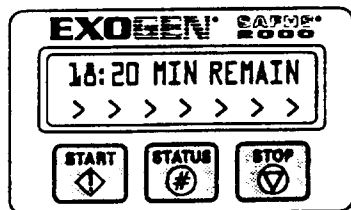

Fig. F.7
- g. Press the "Start (◊)" button again within this 5 seconds to start the 20-minute treatment period. The display indicates the remaining time of the 20-minute treatment period (Fig. F.7). The green light on the back of the THM will light indicating that the THM is emitting ultrasound. The device will shut off and the display will be blank if the "Start (◊)" button is not pressed within this 5 seconds and steps F.1.a through F.1.e must be repeated.
Note: Each time the device is turned on (Fig. F.7) by pressing the "Start (◊)" button, a record of use is stored in the Patient Compliance Monitor (PCM). The PCM records completed, partial, and terminated treatments. **The patient should avoid turning the device on and immediately off repeatedly because there is a data storage capacity limit in the PCM.**